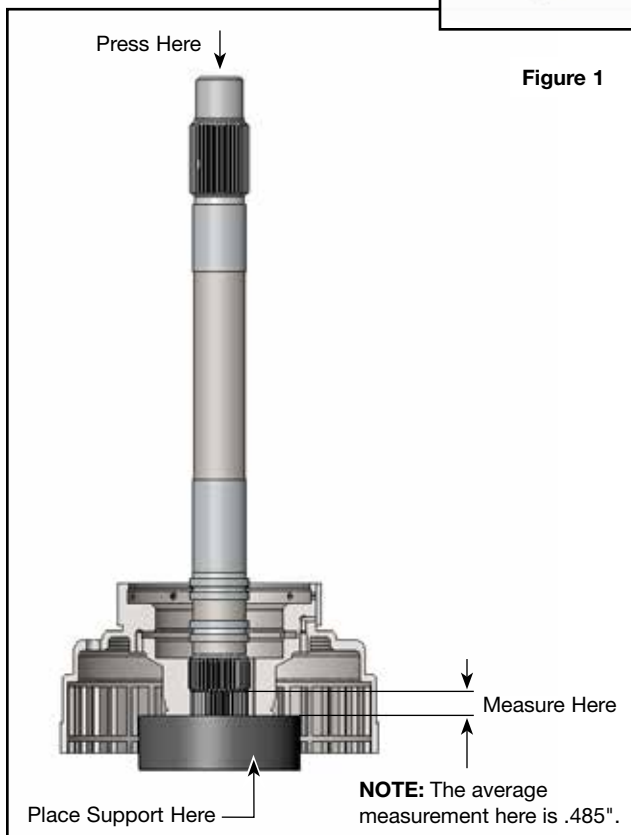

Figure 1
4. Press shaft into drum until dimension is .485" (+/- .005") (Figure 1).